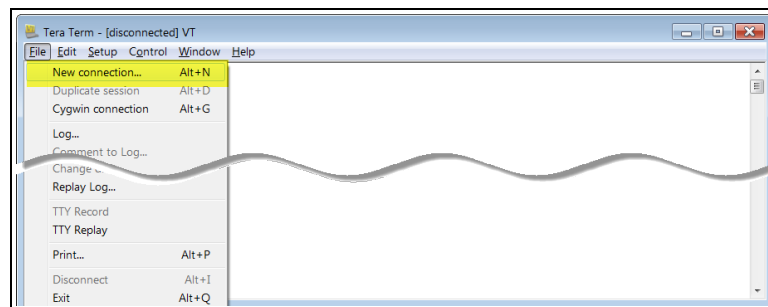

Figure 19: File menu > New Connection
- In **Tera Term**, click the **File** menu and select **New Connection**. Figure 19